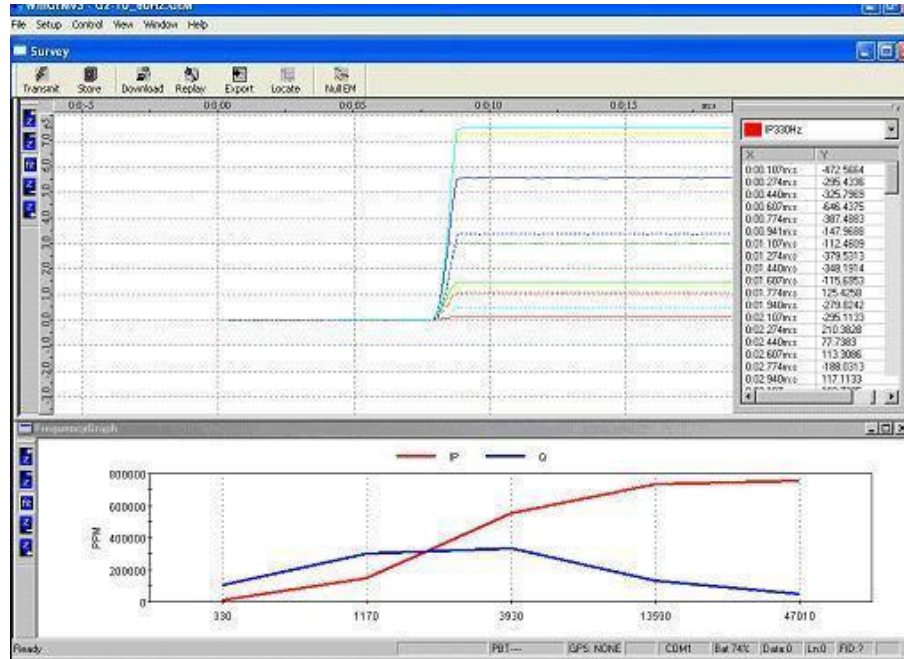

Figure 5. Time and Frequency graphs showing the response to a target after nulling.
Figure 5 shows the default layout of the WinGEM screen with a Time Graph (stripchart) window above and a Frequency Graph (EM spectrum) below. When transmitting, the Time Graph shows a time history of the inphase (solid lines) and quadrature (dashed lines) data for all frequencies. Typically, the last 25 seconds of acquired data are plotted. The Frequency Graph shows an instant EM spectrum. Both graphs are updated once per second.
- ?? **Show Points** adds a docking window that lists data values for a particular curve (see Figure 5). The drop down list that selects which curve to display also associates each curve’s color and style (solid or dashed) with its frequency and type (inphase or quadrature).